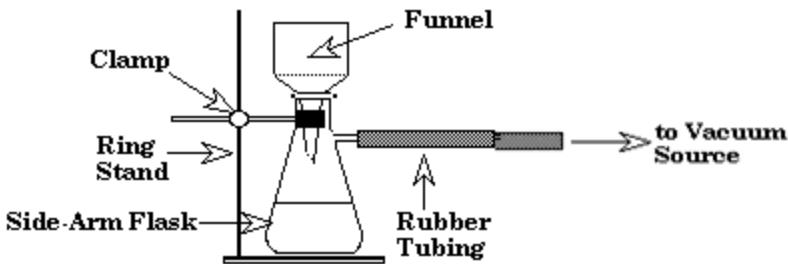

Figure 1: Vacuum Filtration Apparatus
14. Set up the vacuum filtration apparatus as shown in Figure 1, if it is not already set up in the classroom.